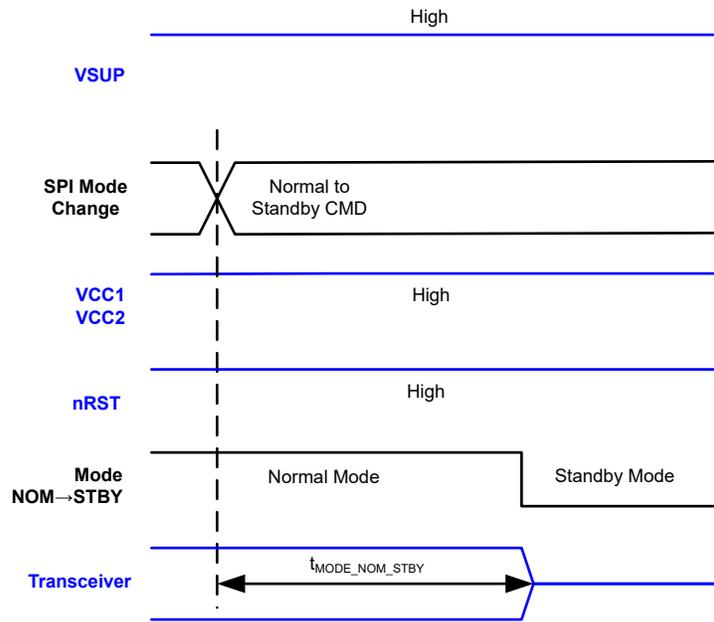

Figure 7-16. Normal to Standby Timing
- B. The blue signals are input or output of the TCAN241x-Q1 and the black signals are internal to the TCAN241x-Q1. This is for the timing diagrams Figure 7-13 , Figure 7-14, Figure 7-15, Figure 7-16.